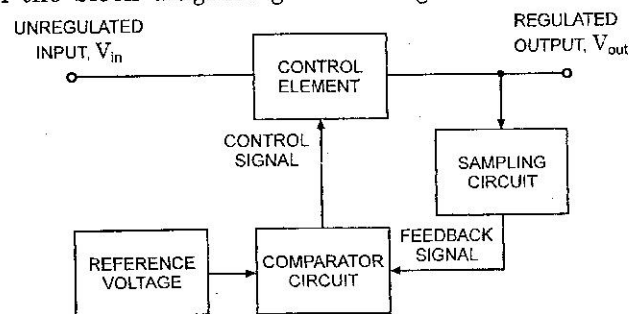

Fig. 32.4. Block Diagram of a Series Voltage Regulator
32.5.1. Series Voltage Regulators. The basic connection of a series voltage regulator circuit is shown in the block diagram given in Fig. 32.4.